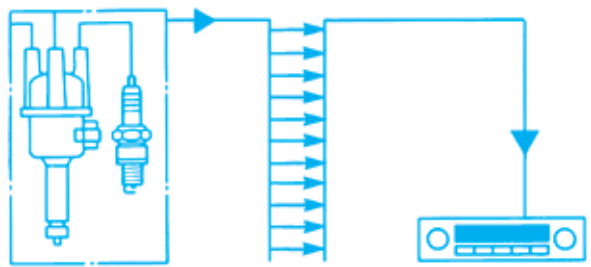

Figure 4-31. Capacitive field between adjacent wiring transmits conductive-coupling interference.
- Capacitive coupling through an electrostatic field between two conductors (Figure 4-31).